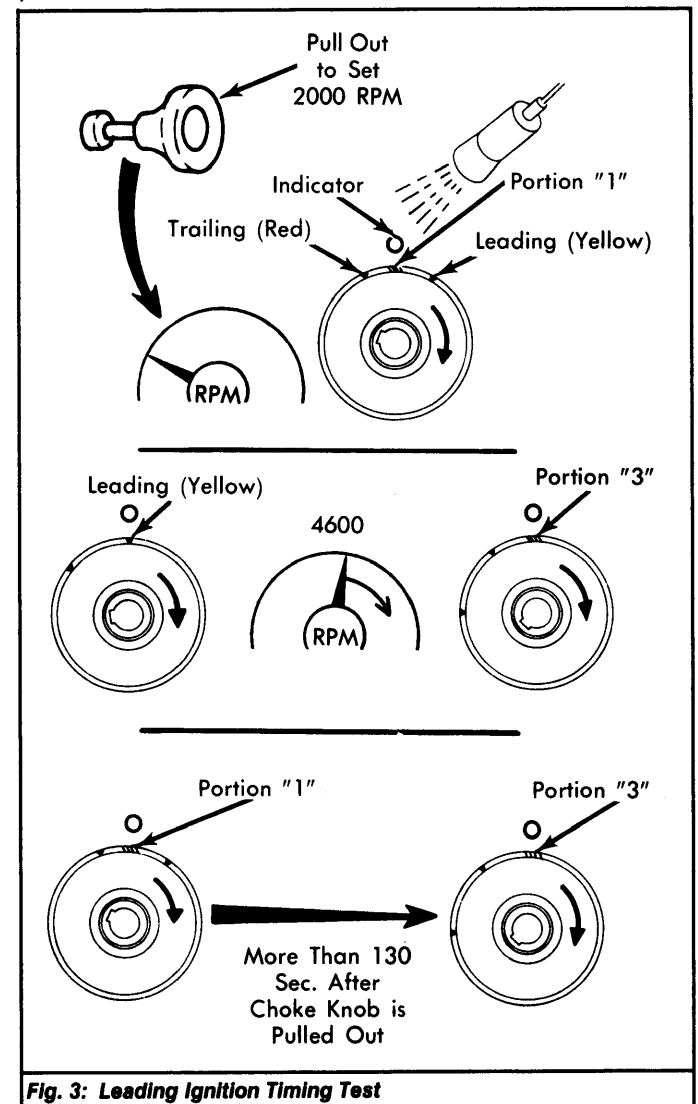

Fig. 3: Leading Ignition Timing Test
3) Observe timing marks on shaft pulley. Timing indicator should point between leading and trailing ignition timing marks. See Fig. 3.